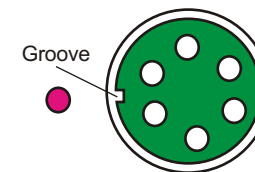

Fig.2A Eyepiece encoder connector
- 2.6 Refer to Figs 2A, 3 and 4. Mount the eyepiece micrometer on the tester. Connect the eyepiece signal wire. Take notice of the groove's direction. The groove of signal plug (18) should be directed at the red point on the tester.